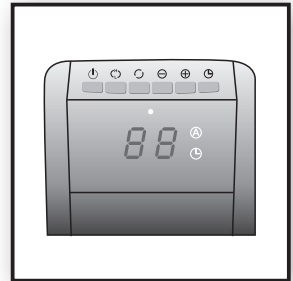

Figure 2
(Figure 2)
3. When the heater is initially plugged in, there will be a "beep" and the **Power Light** will come on indicating that there is power to the unit. The **Power Light** will remain lit until the heater is unplugged from the electrical outlet. (Figure 2)